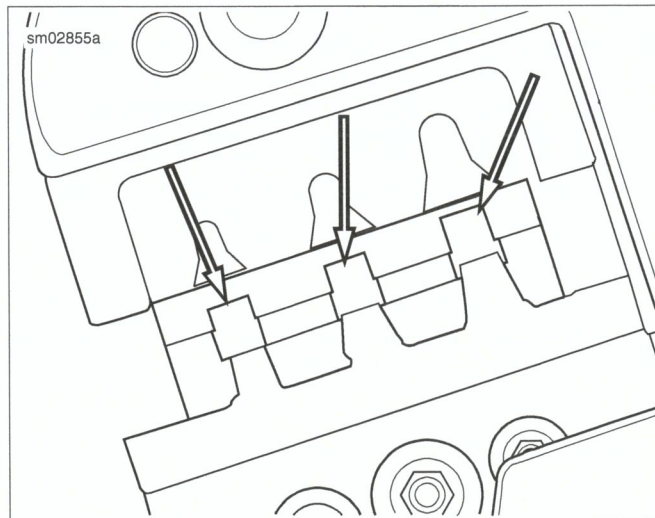

Figure A-19. Square Openings in Socket Locator Bar
5. See Figure A-19. With the crimp tails up, place the terminal through the punch/die into the square opening in the socket locator bar.